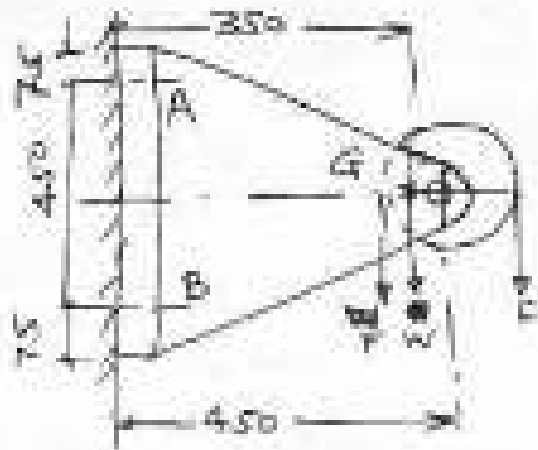

Fig. 2b
- b) Figure 2b shows a pulley bracket, which is supported by 4 bolts, 2 at end A and 2 at end B. The weight of pulley and bracket,  $W$  is 250N, and the load,  $F$  on the rope is 20kN. Determine the size of the bolts, using an allowable shear stress of 40 MPa for the bolt material. [8]